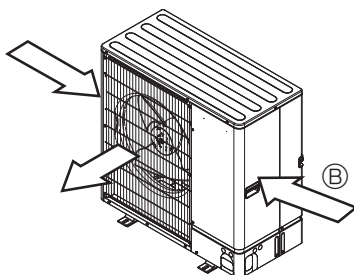

Fig. 4-23
- ③ Position the unit so that the air outlet blows perpendicularly to the seasonal wind direction, if possible. (Fig. 4-23)